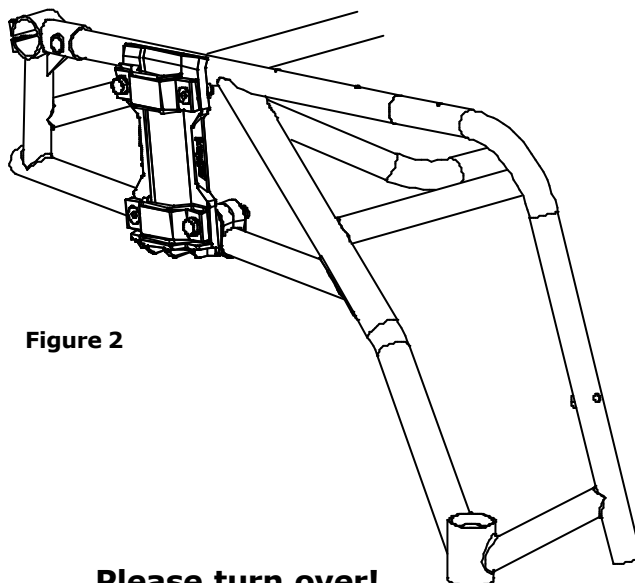

Figure 2
4. Assemble the mountings separately as shown in **figure 2**.